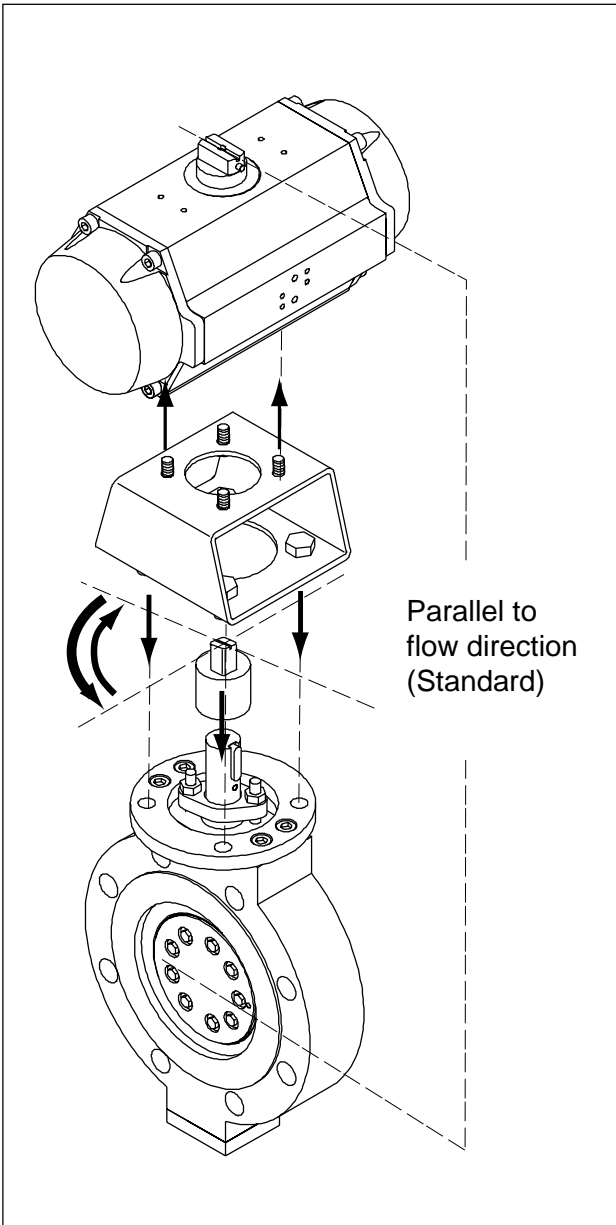

Fig. 6 Mounting an Actuator to the Valve
- Disconnect all connections to the control, unscrew the fastening screws to the mounting flange and take the actuator off the valve, see Fig. 6 in previous section 9.1,
- Before mounting the actuator to the valve make sure that the position indicator is correctly adjusted, see Fig. 6 and section 9.1 Mounting an Actuator to the Valve.